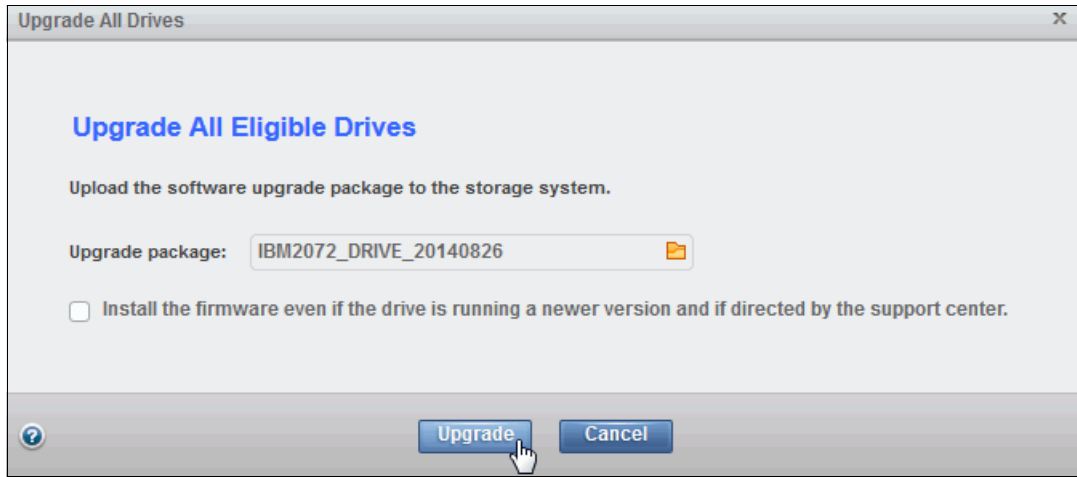

Figure 11-56 Upgrade all drives: select firmware file
2. After initiating the drive upgrade process using either of the previous options, the pane in Figure 11-56 is displayed. Select the Drive Upgrade package, which was previously downloaded from the IBM Support site, by clicking the folder icon, and then click **Upgrade** to continue.